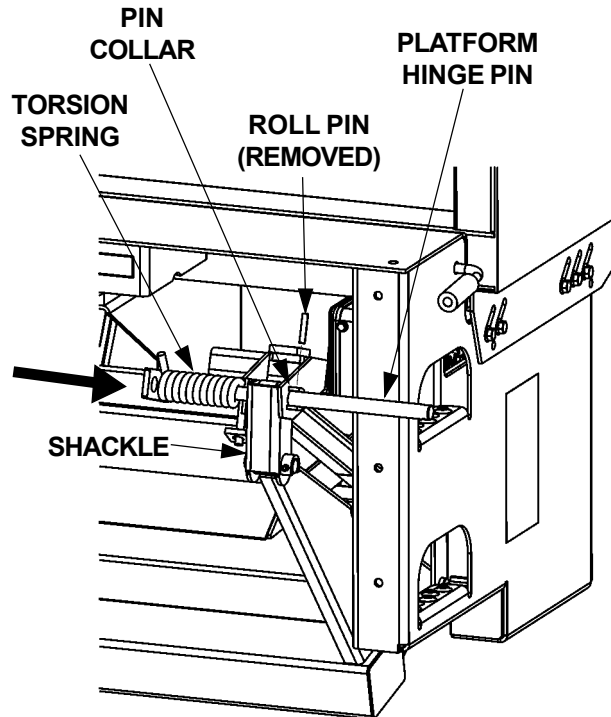

FIG. 14-1
3. Drive out the roll pin from pin collar on the Platform Hinge Bracket. Drive the platform Hinge Pin outboard from the Shackle just enough to free the torsion spring (**FIG. 14-1**). Remove spring from Shackle.